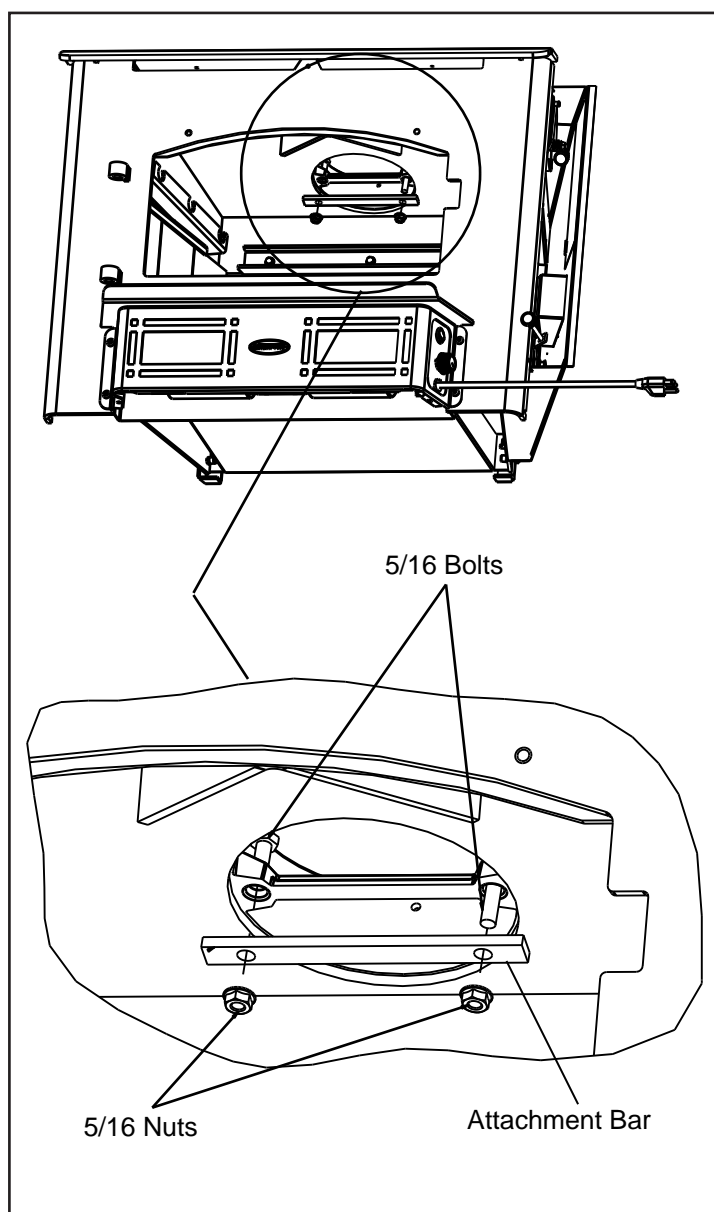

Figure 41.1
2. Reach up through the flue opening and grab the attachment bar and pull down inside flue opening. **Figure 41.1**.